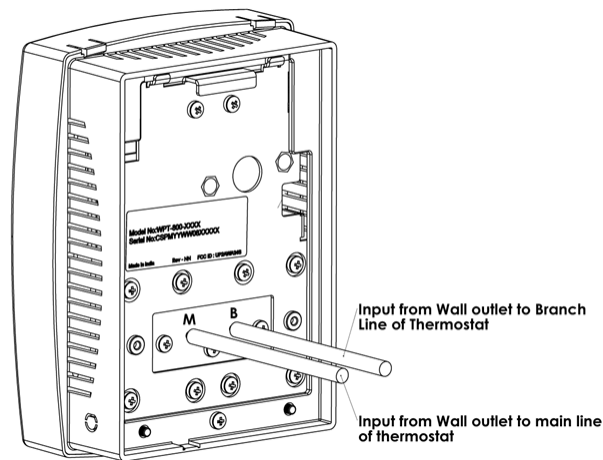

Figure 6. Connecting Main and Branch Tubes to M and B Ports
6. Connect the branch and main tubes to the air tubes marked B and M on the rear of the WPT, as shown in Figure 6. Connect the pneumatic tube to the M port in case of single pipe WPT.